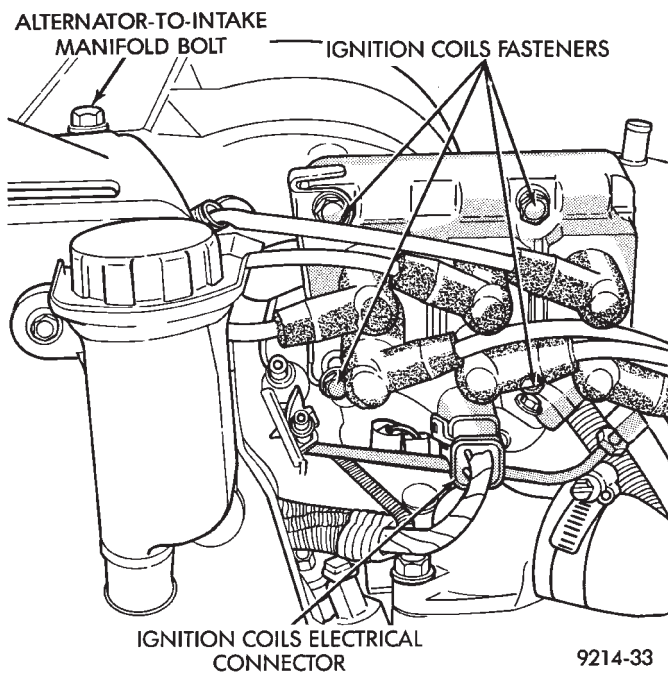

Fig. 4 Ignition Coil Removal
- (1) Drain cooling system until coolant level is below coolant sensor. Refer to Group 7, Cooling System.
- (2) Remove electrical connector from coil (Fig. 4).